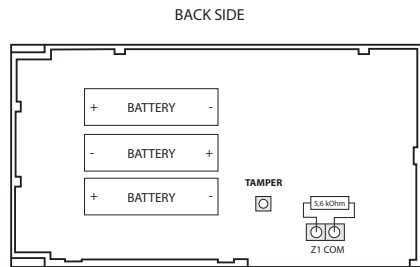
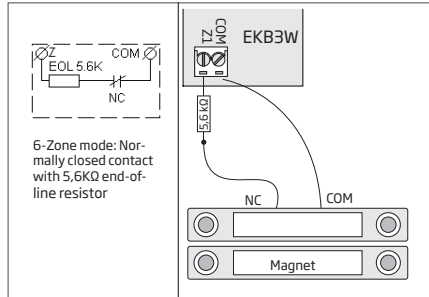

Fig. No. 2
Fig. No. 4
3. Connect a sensor and the resistor across **Z1** and **COM** terminals in accordance with zone connection Type 1 or Type 2 (see Fig. No. 4). As keypad zone Z1 is disabled by default, it can be enabled by SMS text message, *ELDES Configuration Tool* software, EKB2 (only for ESIM364), EKB3 (only for ESIM364) and EKB3W keypad. Keypad zone Z1 must be enabled and resistor connected even if the tamper-switch alone is required (see Fig. No. 2).
**ATTENTION!** Before fixing the keypad into the holder, please, make sure that the tamper is properly pressed (see Fig. No. 2).